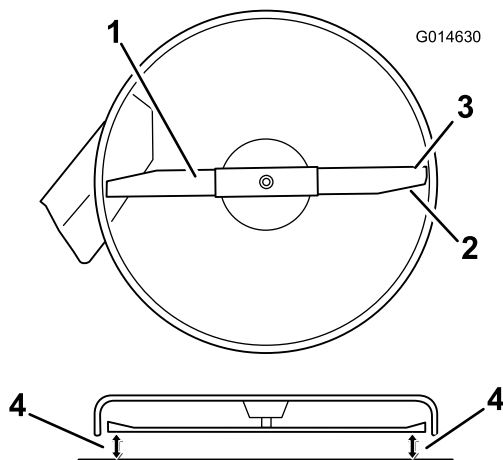

Figure 48
4. Carefully rotate the blade so that it is side to side (Figure 48).
5. Measure between the outside cutting edges and the flat surface (Figure 48).